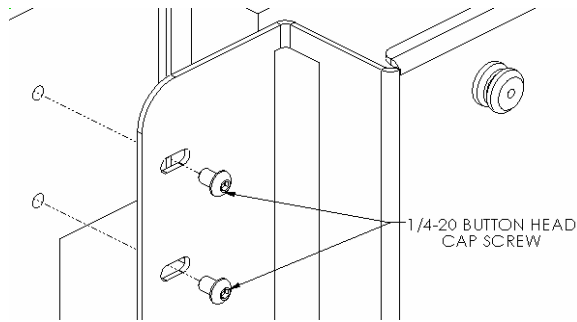
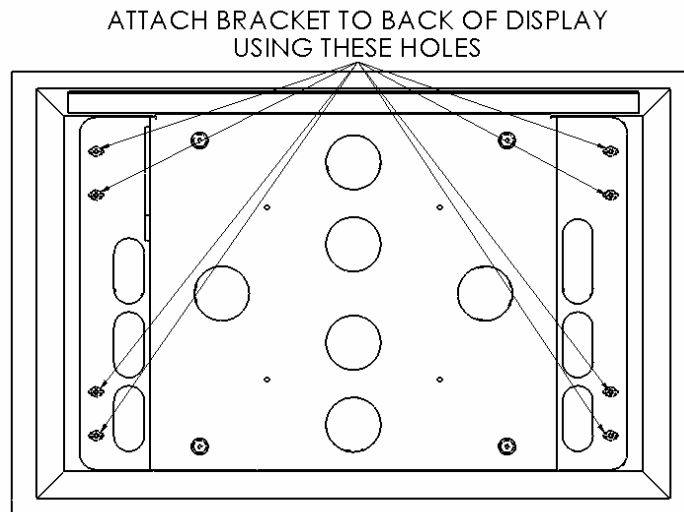

Figure 4
Figure 5
2. Attach mounting bracket to the display using the 1/4-20 screws (see Figure 4 & Figure 5).